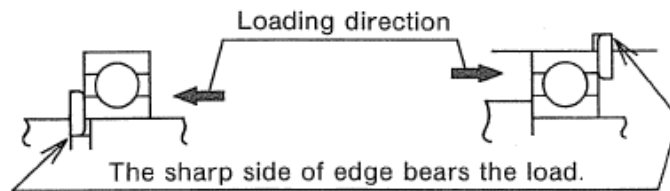

Fig.11
- 1) Assembling direction for Retaining ring (See Fig. 11)